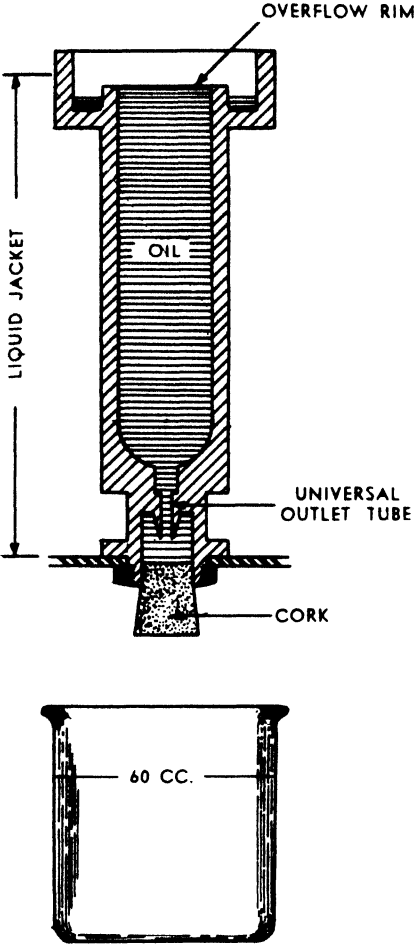

FIG. 169. VISCOSITY METER.
for classifying lubricating oil according to its viscosity. The Saybolt Universal Viscosimeter, Fig. 169, is used in making this classification. The method consists in timing the flow of two ounces of oil from an outlet tube of  $\frac{1}{16}$ " diameter while the temperature is held constant. The S. A. E. numbers by which oil is designated and their corresponding Navy symbols are given in Table XL.
c) An Ostwald Viscosimeter is a very accurate means of measuring viscosity of oils. See Fig. 169. A known amount of oil is placed in the right hand side arm at (g) and is pulled up by suction into the left hand side at (a) until the level is above (c). With a stop watch, the time necessary for the liquid to flow back from (b) to (d) through the capillary tube (dc) is determined. The time required is compared with the time taken for water to flow through the tube. The viscosity of the oils is compared with water, as a standard liquid having a viscosity of 1.